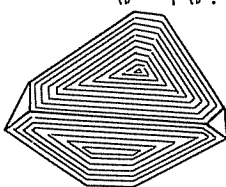

Fig. 27
**Crystal System**—Tetrahedrons are the common form. (Fig. 27). Also found in the form of cubes. Crystals are often twinned and modified so that it is difficult to determine the forms present.